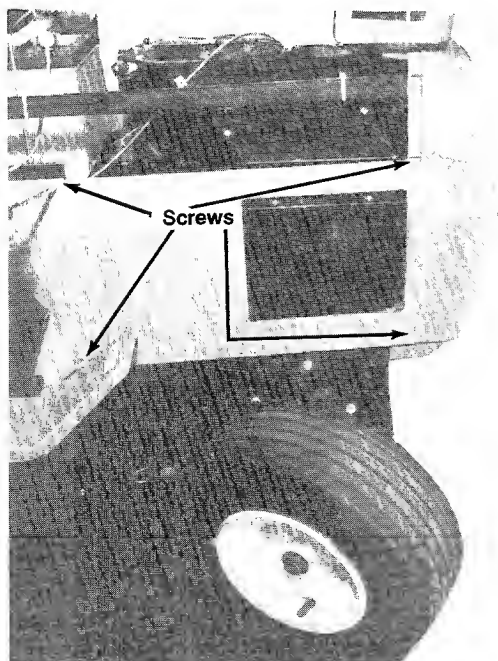

FIGURE 10 |
**Side Panels**—The right and left side panels can be removed for maintenance or attaching accessories. To remove, turn the four screws in the corners a ¼ turn to the left and remove. Used on 16 H.P. only. See figure 10.